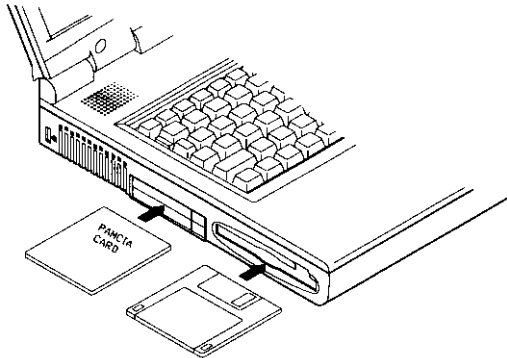

Figure 2-17
1. Open the access door of PC card sockets (Figure 2-17).